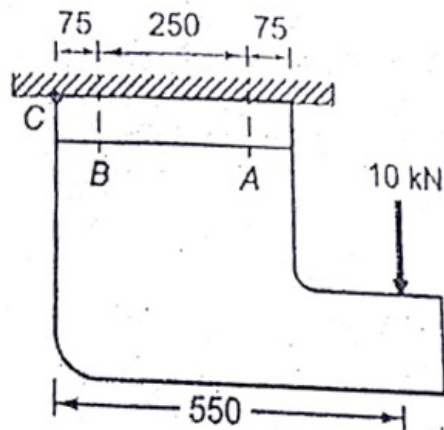

Fig.Q3B
- B) Define stress concentration and explain the methods of reducing stress concentration with neat sketch. (5)
- C) A bolt is subjected to a tensile load of 18 kN and a shear load of 12 kN. The material has yield strength of 326.8 MPa. Taking factor of safety as 2.5, determine the core diameter according to the following theories of failure. (10)
- 2) A shaft of diameter 65 mm transmits power at maximum shear stress of 67 MPa. (5)
- B) A shaft 600 mm between the bearings supports a 400 mm diameter pulley, 200 mm to the right of the left hand bearing and it receives power from a motor placed vertically below it. Another pulley 350 mm diameter is located 150 mm to the right of the right hand bearing and delivers power to a pulley to the right horizontally. The coefficient of friction is 0.3. The maximum tension in any belt is 5000 N. The angle of wrap of the belt on each pulley is 180° . Determine the maximum resultant bending moment acting on the shaft. Draw the horizontal, vertical and resultant bending moment diagram. (15)
- 3) A power screw having double start square threads of 25 mm nominal diameter and 5 mm pitch is acted upon by an axial load of 10 kN. The outer and inner diameters of screw collar are 50 mm and 20 mm respectively. The coefficient of thread friction and collar friction wear condition may be assumed to be 0.2 and 0.15 respectively. The screw rotates at 12 rpm. Assuming uniform friction wear conditions at the collar and allowable thread bearing pressure of 5.77 MPa. Find the power required to rotate the Screw, stresses in the screw and number of threads of nut in engagement with the screw. (12)
- B) A bracket shown in Fig.Q3B supports a load of 10 kN. It is fixed to the horizontal channel by means of four identical bolts, two at A and two at B. The bolts are made of 30C8 steel and the factor of safety is 6. Determine the size of the bolt on the basis of principal stress theory. (8)